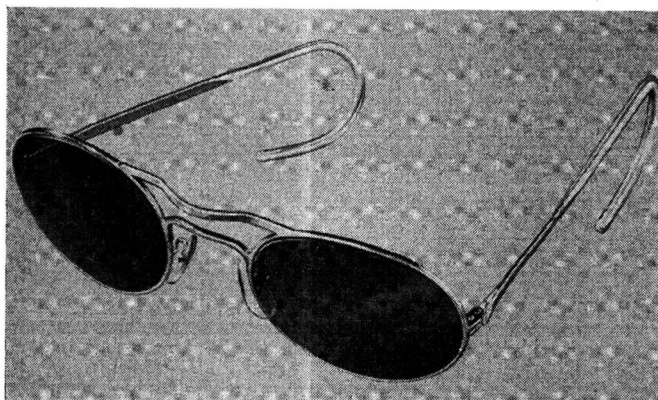

Fig. 3. Anti-glare spectacles, Type G
6. These spectacles (*fig. 3*) are for the use of ground personnel, and are available in two sizes: medium (Stores Ref. 22G/1398) and large (Stores Ref. 22G/1399). The frames have adjustable plastic nose pads and plastic-covered side pieces. A stiffener